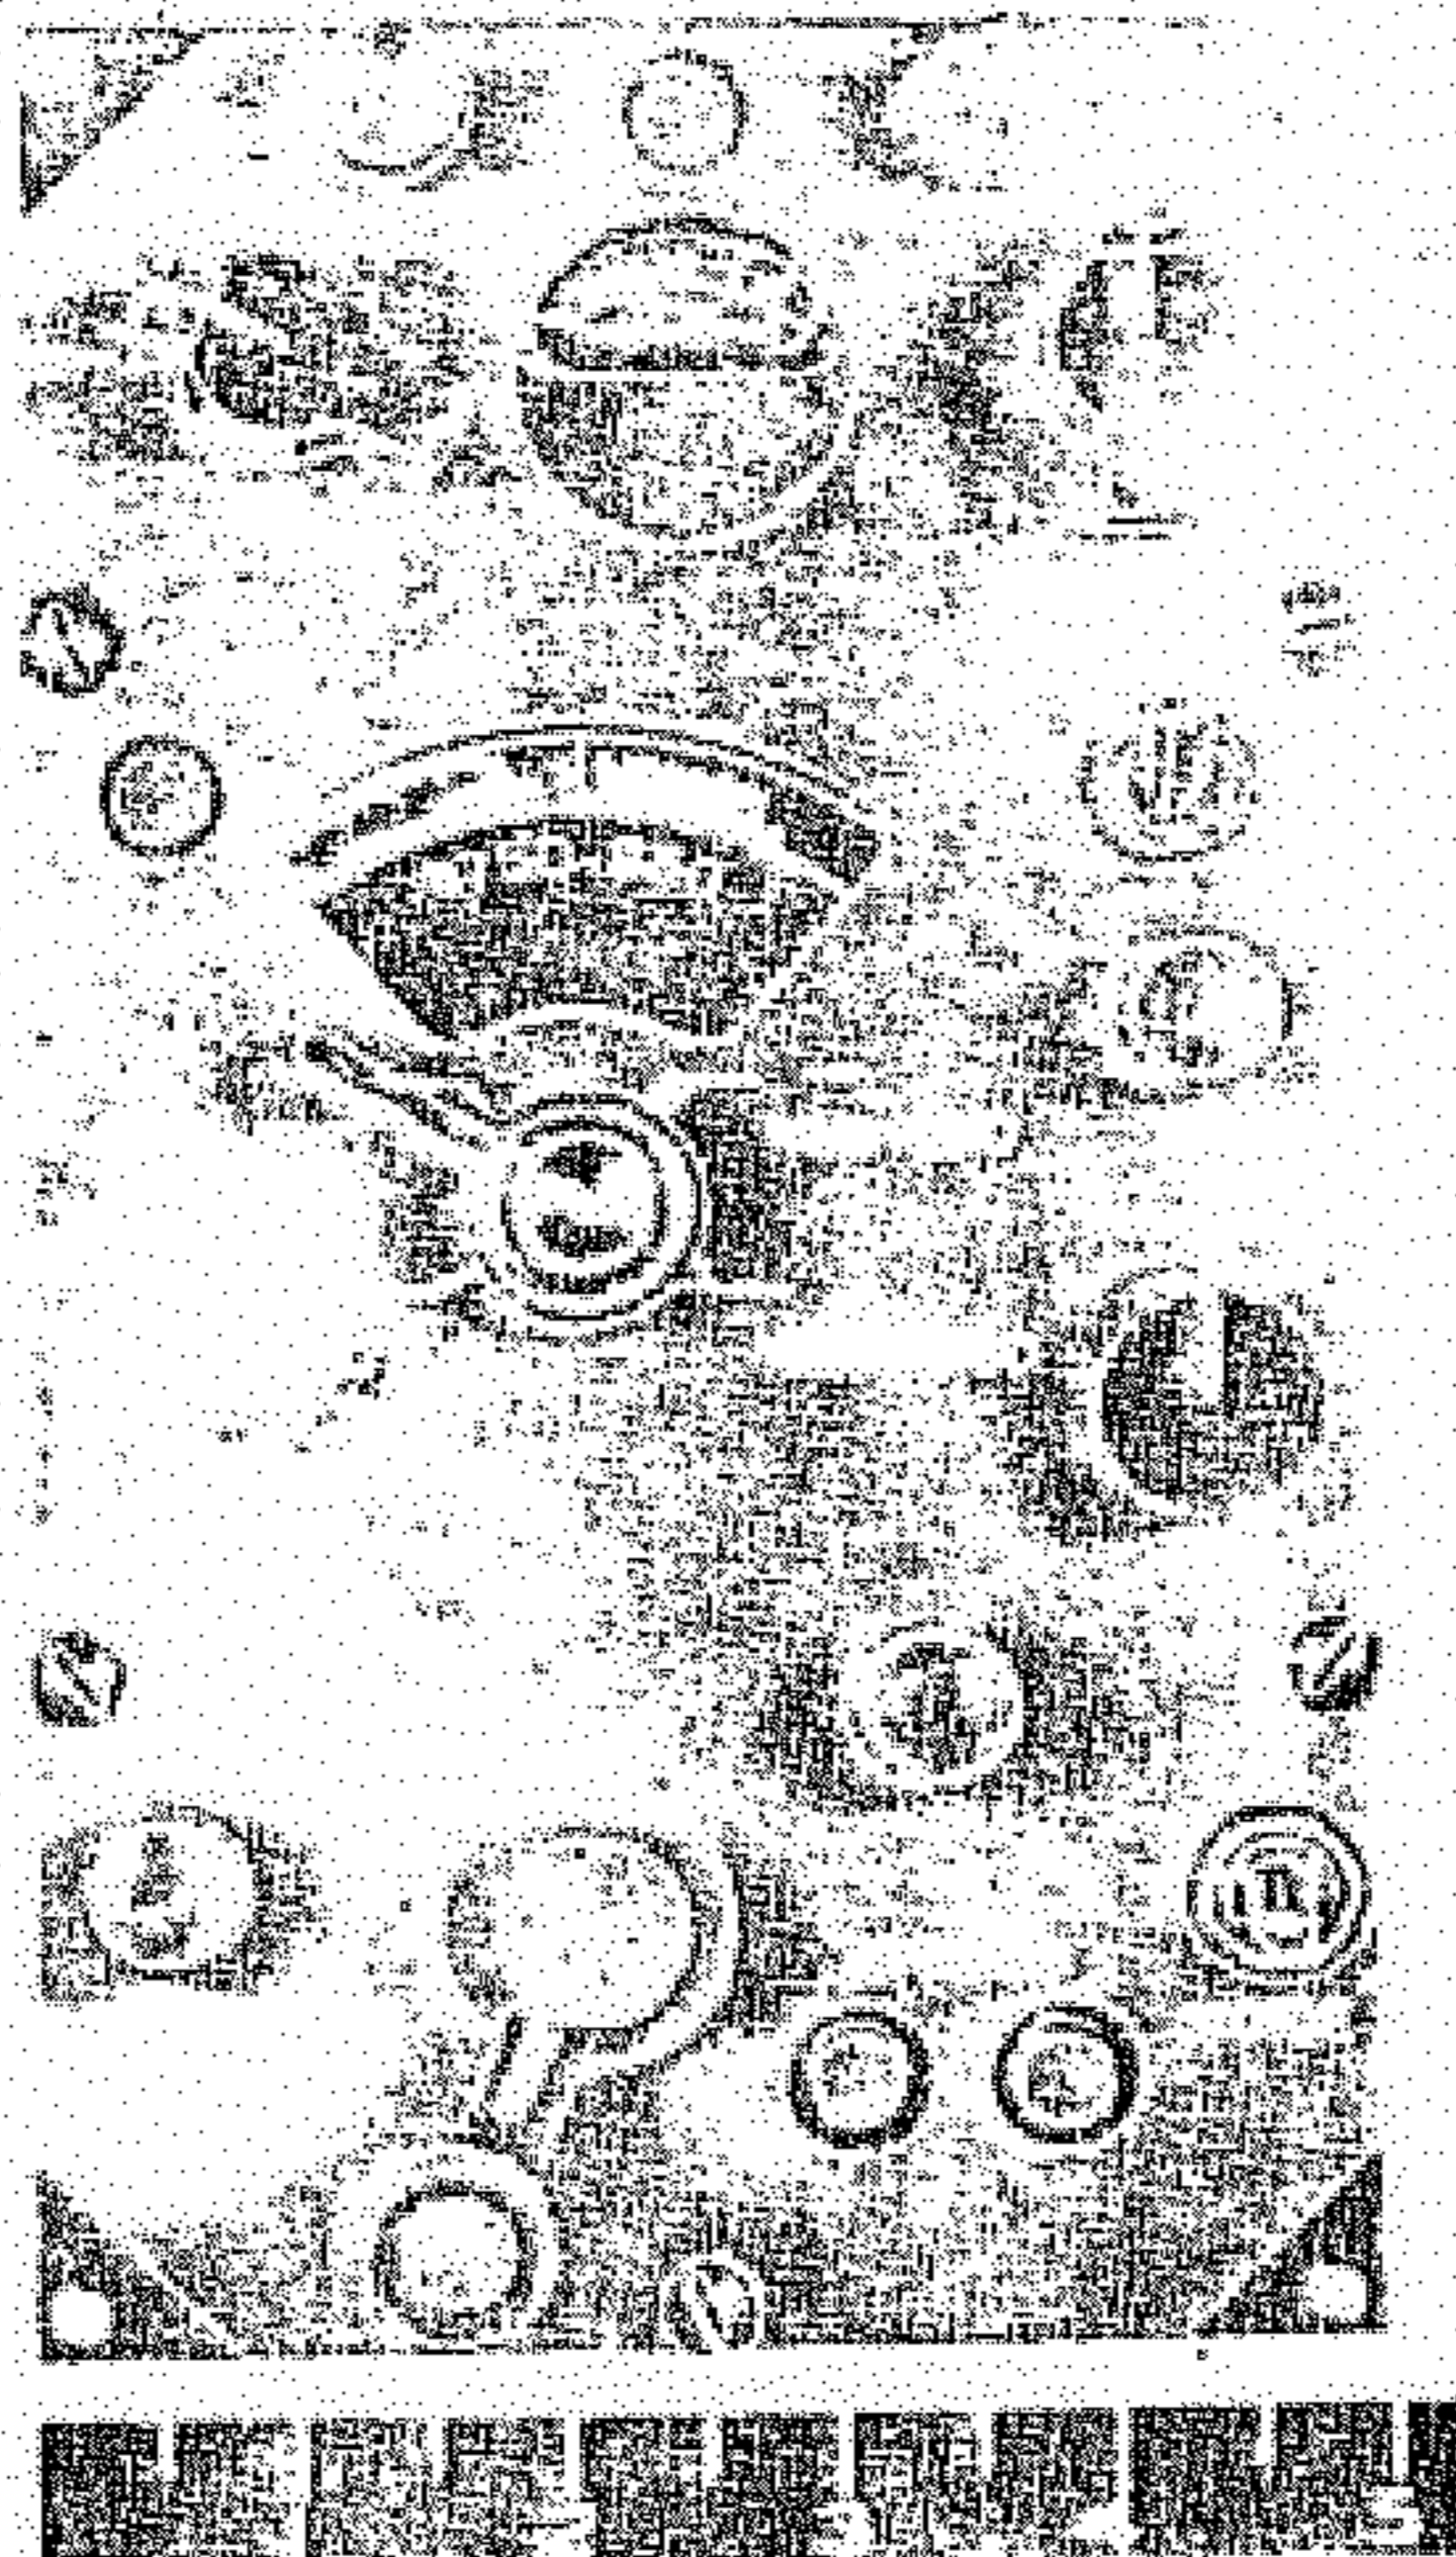

Figure 1-1A. Control Panel C-403A/A
**3A. OPTIONAL EQUIPMENT.****a. CONTROL PANEL C-403A/A. (See figure 1-1A.)**
**l. CONTROL PANEL C-403A/A.** (See figure 1-1A.)—Control Panel C-403A/A is similar to Control Box C-149/ARN-6 except that it is a flat panel assembly for flush mounting and has no headset jack. Headset operation is to be provided through the aircraft interphone facilities. All electrical connections are made by a wiring harness included as part of the unit. The following controls are included: "OFF-COMP.-ANT.-LOOP-CONT." function switch, tuning meter, "LOOP L-R" switch, "LIGHTS HI-OFF-LO" switch, dial, bandswitch, "TUNING" crank, "VOLUME" control, "CW-VOICE" switch, and two "SPARES" bulbs for the instrument lights. The plastic panel is internally illuminated by five lights AN3502. No spare lamps are provided for the panel lights.